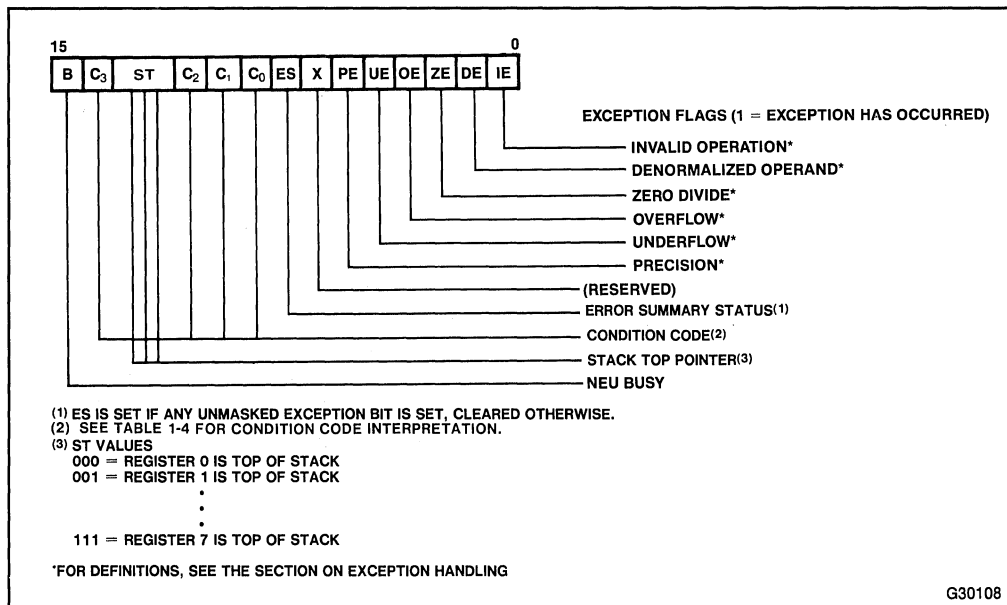

Figure 1-4. 80287 Status Word
The 16-bit status word shown in figure 1-4 reflects the overall state of the 80287. This status word may be stored into memory using the FSTSW/FNSTSW, FSTENV/FNSTENV, and FSAVE/FNSAVE instructions, and can be transferred into the 80286 AX register with the FSTSW AX/FNSTSW AX instructions, allowing the NPX status to be inspected by the CPU.
Figure 1-4 shows the six error flags in bits 0-5 of the status word. Bit 7 is the error summary status (ES) bit. ES is set if any unmasked exception bits are set, and is cleared otherwise. If this bit is set, the ERROR signal is asserted. Bits 0-5 indicate whether the NPX has detected one of six possible exception conditions since these status bits were last cleared or reset.